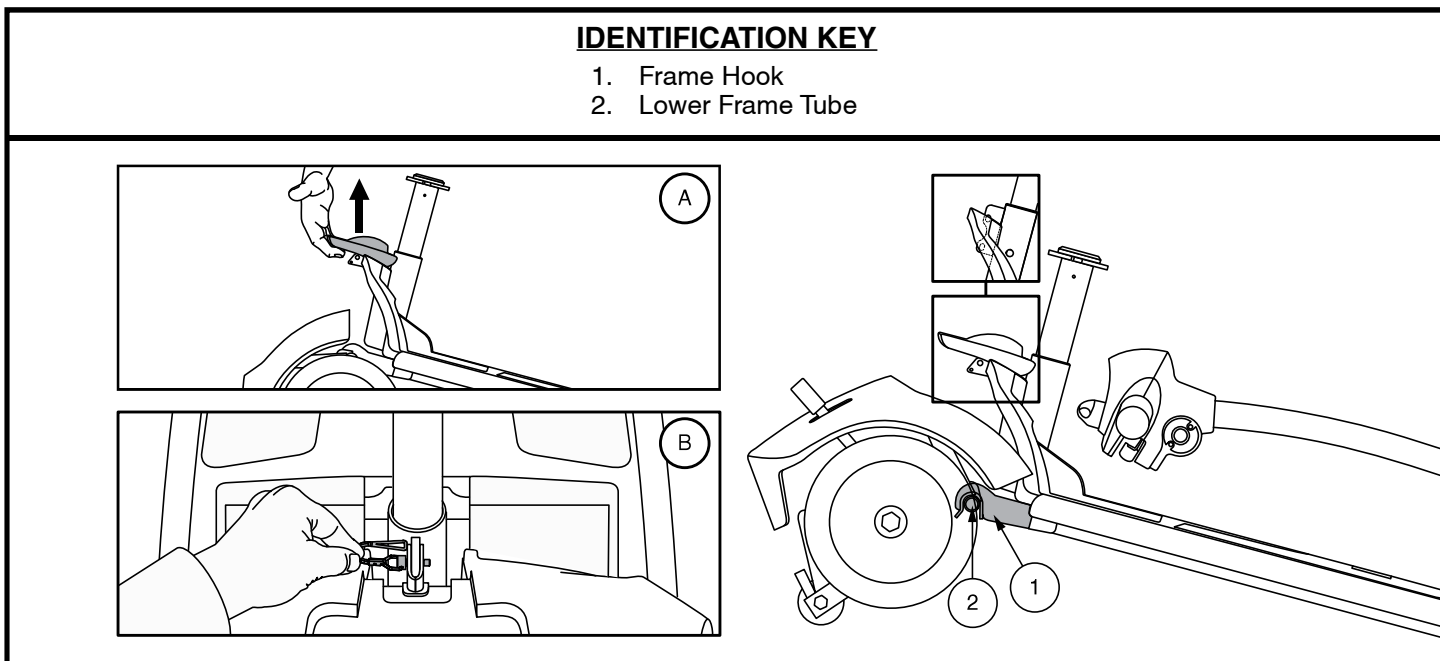

Figure 33. Frame Release Lever (Style A) and Frame Release Lock-up Pin (Style B)
4. Slowly separate the two sections of the Travel Scooter. **See figure 33.**
NOTE: Before attempting assembly, tilt the rear half of the Travel Scooter slightly back on the anti-tip wheels as shown in figure 33.
1. Use the frame release lever (or the seat post for models 29, 36, 336, 83, and 84 only) to lift the front section as you align the frame hooks of the front section with the lower frame tube of the rear section. **See figure 33.**
2. Once the frame hooks are over the lower frame tube, lower the front section and pivot the rear section simultaneously. This will engage the frame lock-up automatically for models AAP4, 39, 40, 44, 40LX, 40X, 44X, 40E, 44E, 44LX, 49, 50LX, 50LXLIT, 53, 53HD, 54, 54LX, 54LXLIT, 54HD, 66, 67, 73, 74, and Jazzy ZTS. For models 29, 36, 336, 83, and 84, you will also need to reinstall the frame lockup pin to complete the body assembly. **See figure 33.**